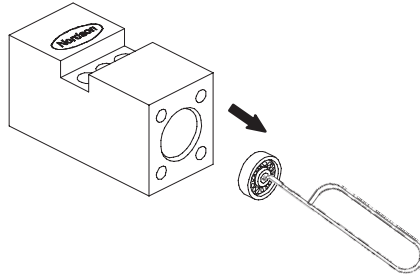

Figure 9-13 Removing the spring seal
- See Figure 9-13. Remove the spring seal by turning the module body over and using the retaining ring removal tool (or a similar tool).